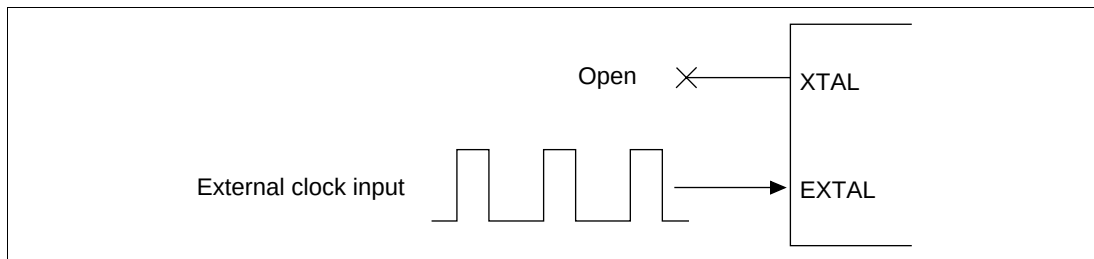

**Figure 7.4 External Clock Input Method**
An external clock signal can be input at the EXTAL pin as shown in figure 7.4. The XTAL pin should be left open. The frequency must be equal to the system clock (CK) frequency. The specifications for the waveform of the external clock input are given below. Make the external clock frequency the same as the system clock (CK).